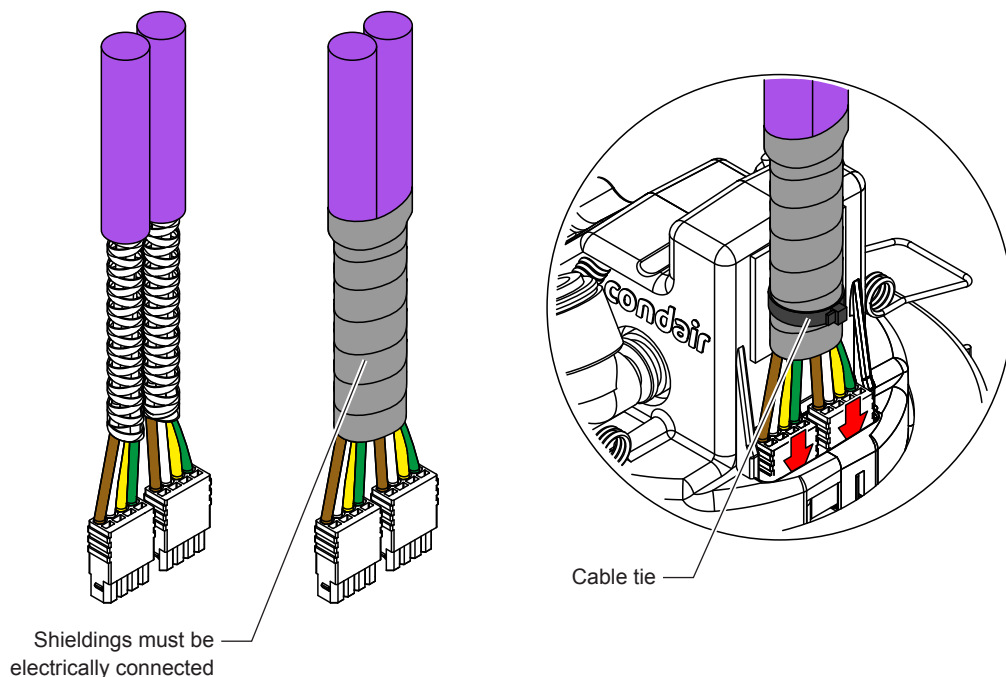

Fig. 29: Connect the CAN bus cable to the spray head
- Align the plugs of the two cables at the bottom and then connect the cables together with adhesive tape, as shown in Fig. 29, so that the shieldings of the two cables are electrically connected (check with a continuity tester).